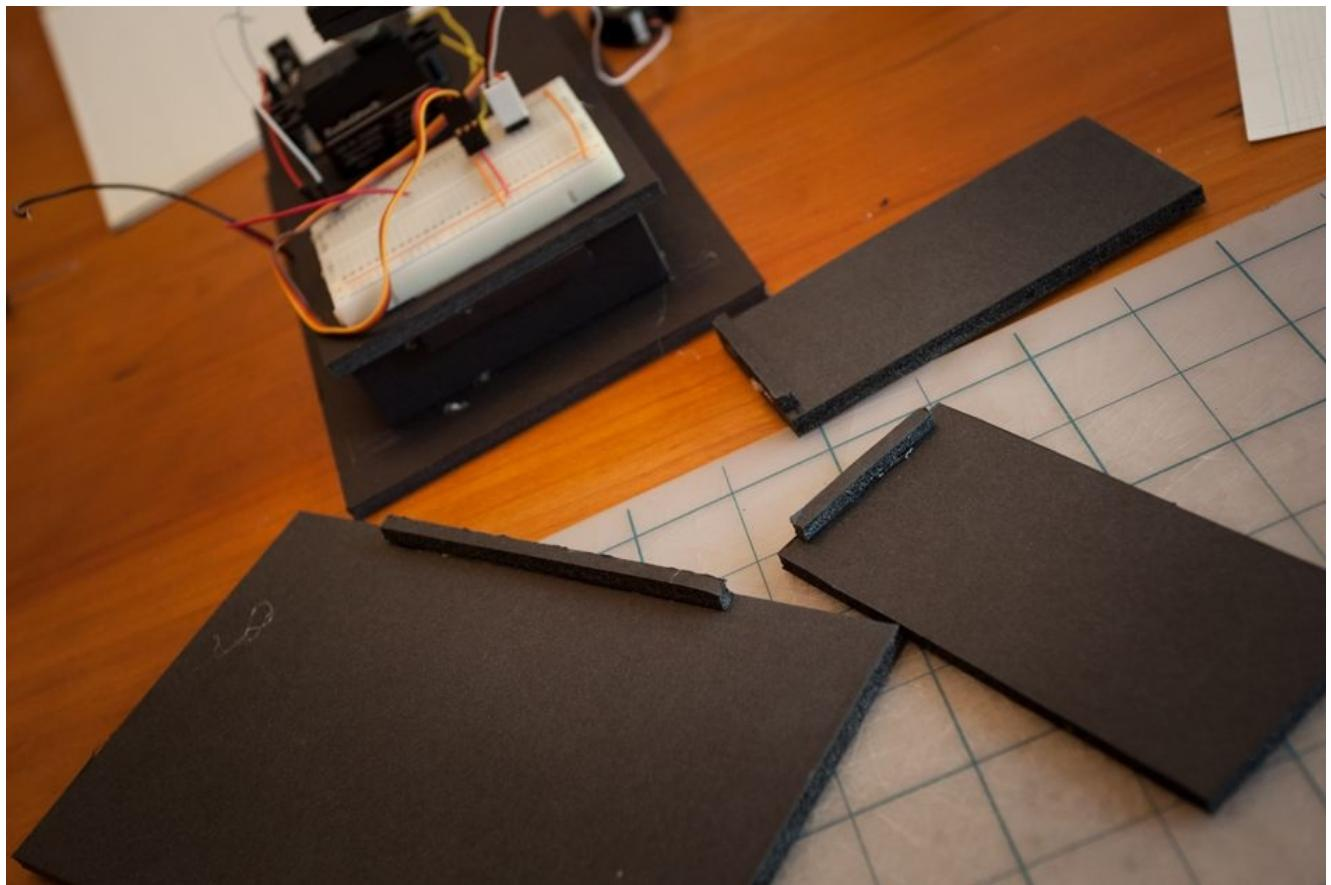

Figure 7-6. The three wall pieces with support reinforcements attached
1. Glue a $1/4'' \times 2''$ support reinforcement along the long edge of the $7'' \times 4.5''$ rear wall, and along one short edge each of the $2.25'' \times 4.5''$ side wall pieces. See Figure 7-6.